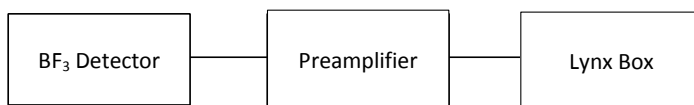

Figure 2 Block Diagram for BF₃ detector
4. Set up detector system as shown in Figure 2 and Table 1